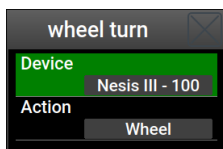

Figure 4.31: Joyu wheel movement was assigned to Nesis with serial number 100. Action in this case is knob rotate action, which equals to wheel.
4. Rotate a wheel. Same window appears, but with less options. Figure 4.31 illustrates an example.